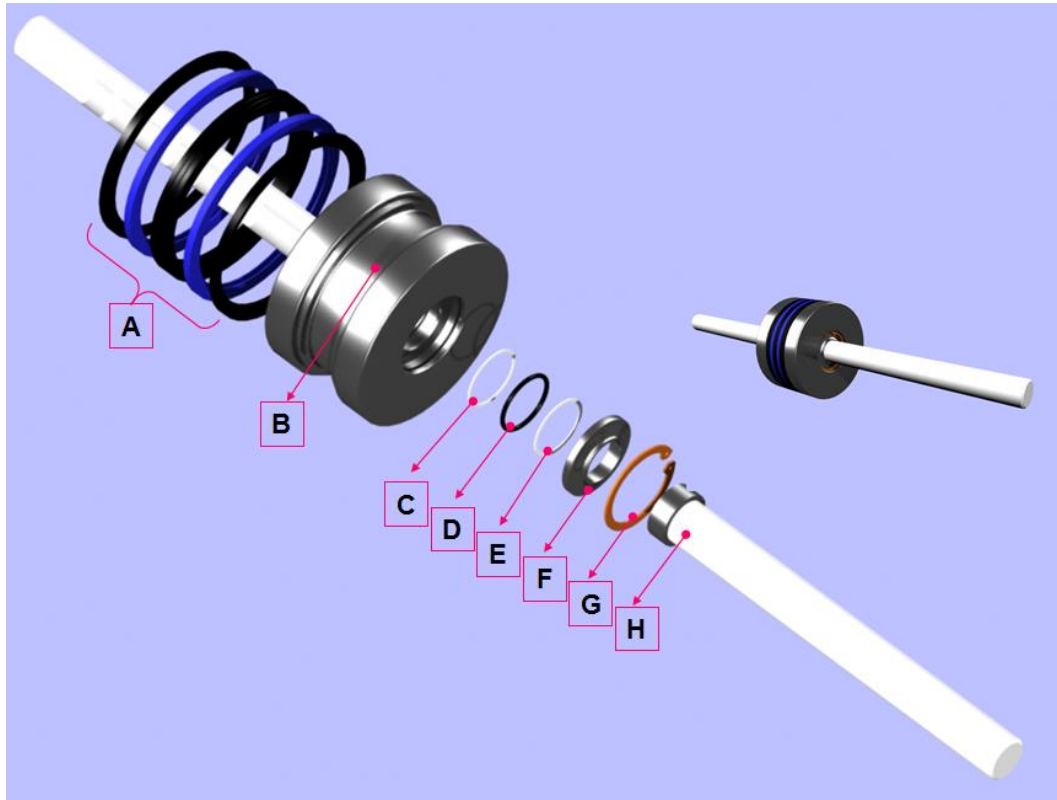

Figure.2
- B: piston assembly (figure.2)